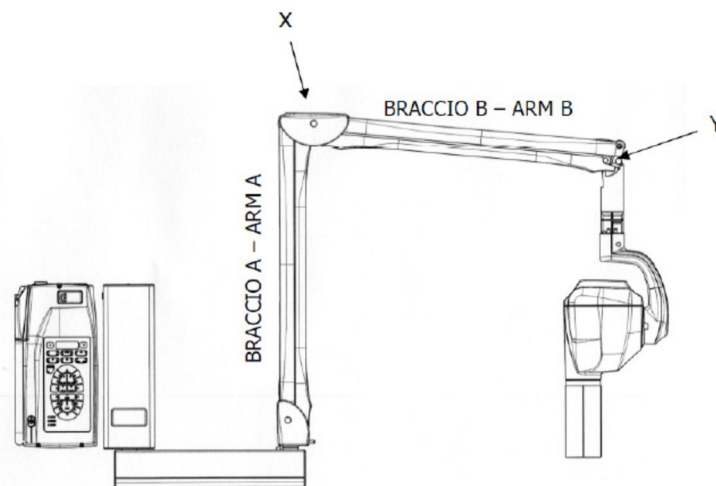

Fig. 12
*The pantograph arm must be adjusted only when the tubehead is assembled (fig. 12).*
INSTRUCTION (refer to Fig. 12)